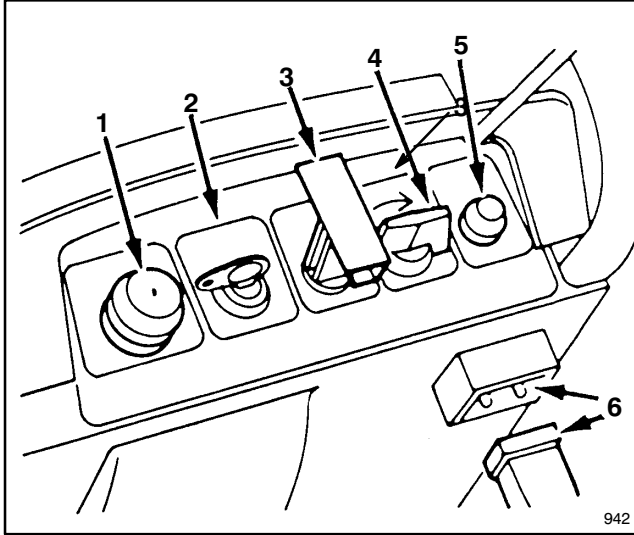

Figure 11
1. **CONTROLS**—All controls are mounted on the control panel (Fig. 11). They consist of a primer, ignition switch, recoil starter, choke and electric start button.